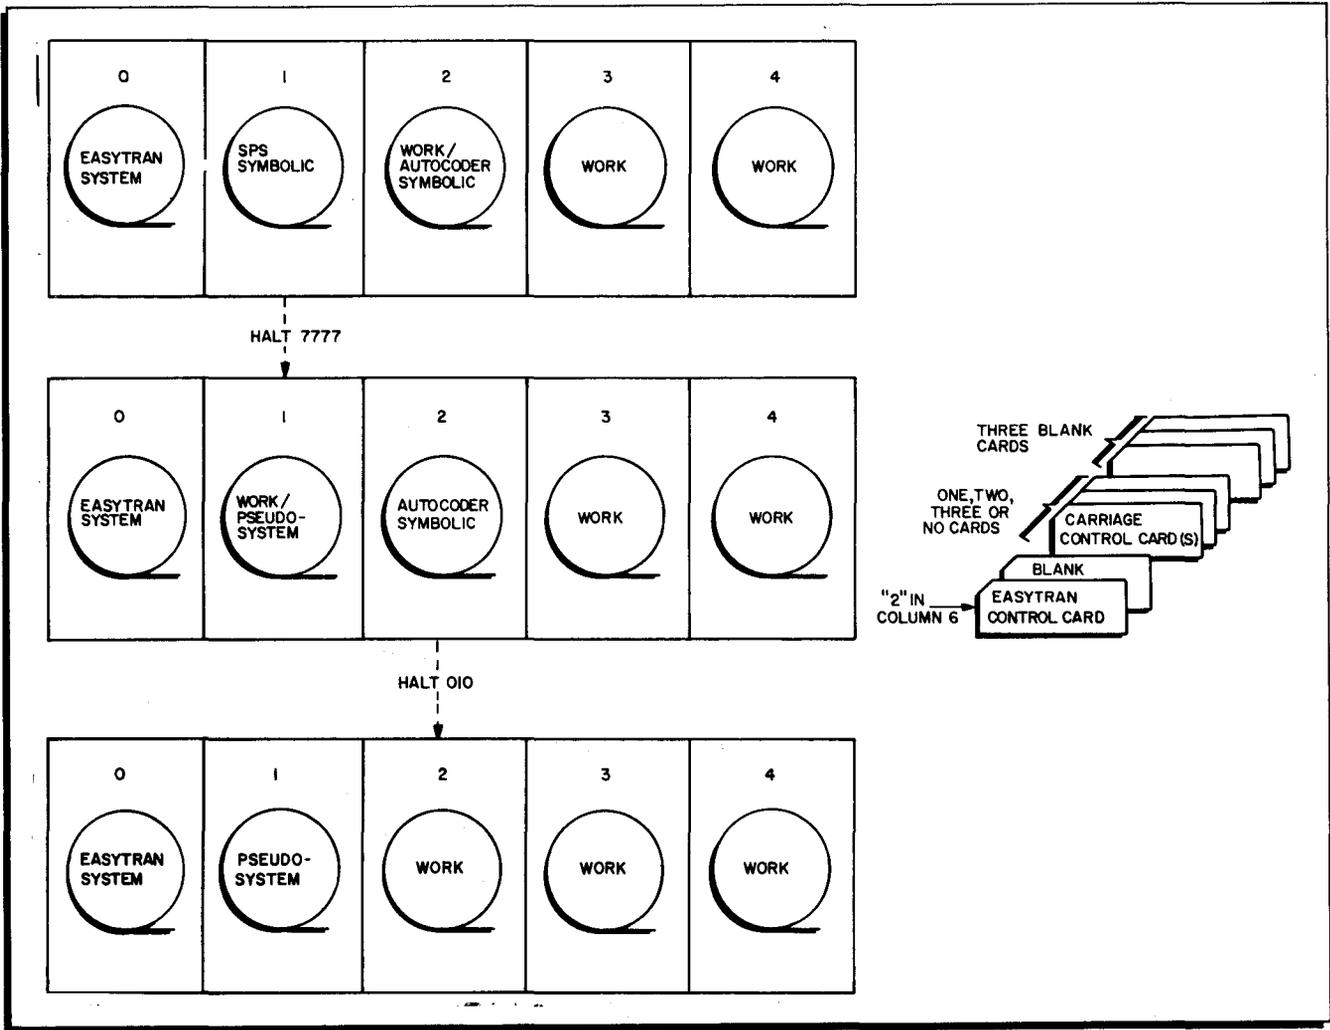

Figure 8. Five-Tape System — Tape Manipulation and Card Input for SPS Conversion from Tape
Five-Tape System: SPS Conversion from Tape (Figure 8)
1. Make up the Easytran load deck as shown in Figure 8; load the card reader.